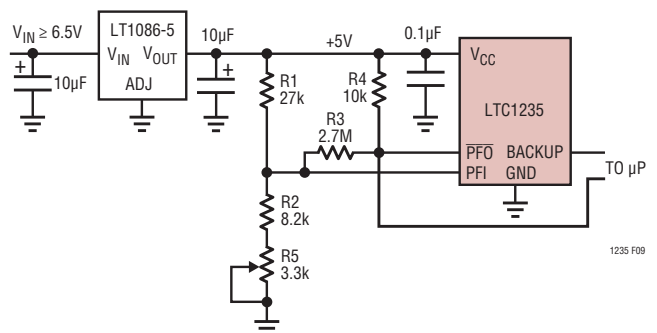

Figure 9. Monitoring *Regulated* DC Supply with the LTC1235 Power Fail Comparator
**Example 2:** The circuit in Figure 9 can be used to measure the regulated 5V supply to provide early warning of power failure. Because of variations in the PFI threshold, this circuit requires adjustment to ensure that the PFI comparator trips before the reset threshold is reached. Adjust R5 such that the  $\overline{PFO}$  output goes low when the  $V_{CC}$  supply reaches the desired level (e.g., 4.85V).